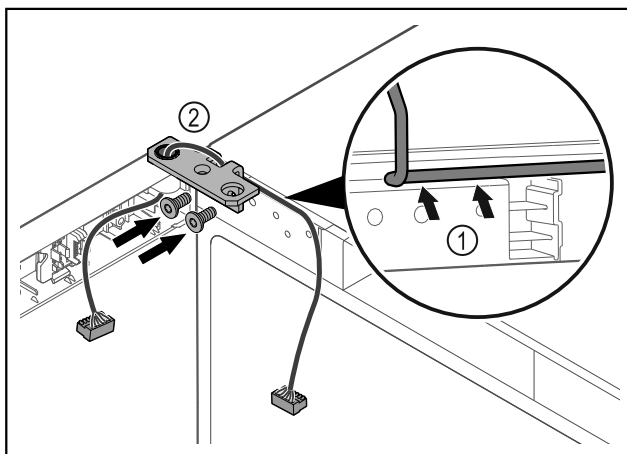

Fig. 53
- Feed the cable through the recess in the hinge and lay it carefully Fig. 53 (1).
- Screw on the hinge Fig. 53 (2).